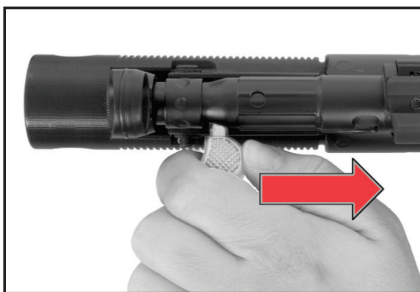

Fig. 30 – Move the bolt rearward
3. Open and lock the bolt to the rear. Grasping the charging handle on the left side of the receiver (located adjacent to the front sight) and move the bolt to the rear while keeping the muzzle pointed in a safe direction (Fig. 30). Place the charging handle in the upward, locking recess notch (Fig. 31-A and 31-B). The bolt should be locked in the rear position. Watch for a cartridge or empty case to be ejected out through the ejection port.